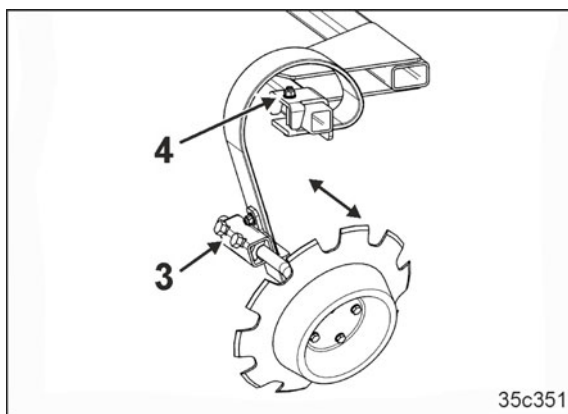
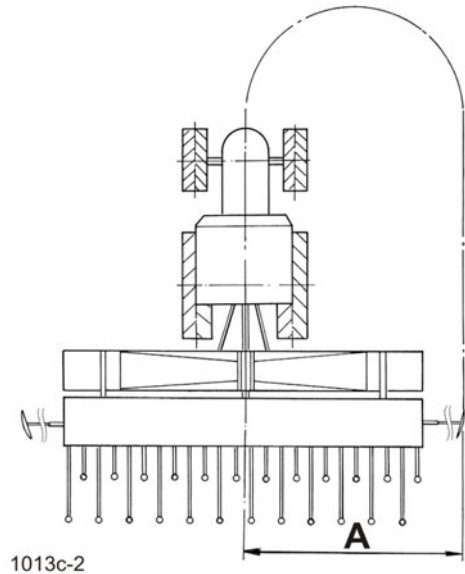

Fig. 207
Fig. 208
9. Loosen the bolts (Fig. 207/3)
10. Adjust the track marker length by moving (Fig. 207) to distance "A" (Fig. 208).
11. Tighten the bolts (Fig. 207/4)
13. Loosen the bolts (Fig. 207/4)
14. Adjust the track marker length by moving (Fig. 207) to distance "A" (Fig. 208).
15. Tighten the bolts (Fig. 207/4)